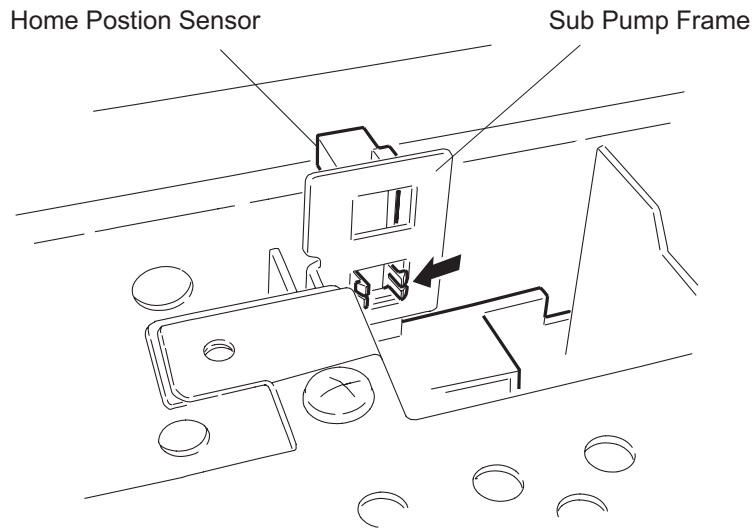

Figure 3-15. HP Sensor Removal
2. Using tweezers, release 2 hooks fixing the HP sensor to the sub pump frame. Then remove the HP sensor by pulling it downward. (See Figure 3-15.)